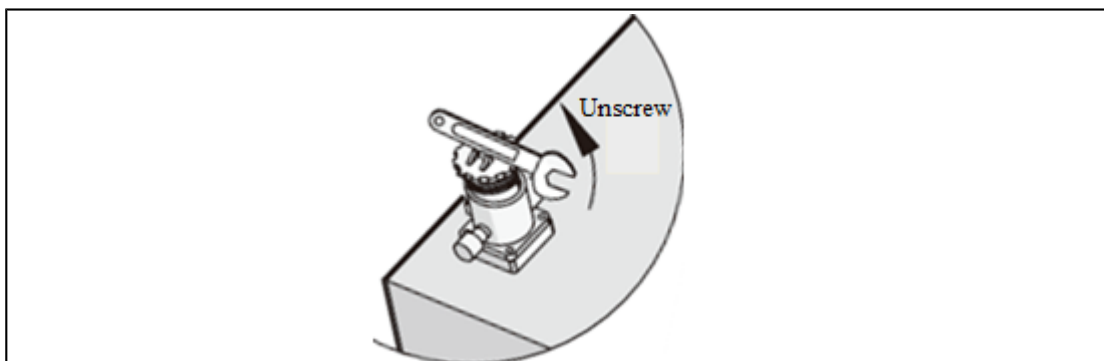

Figure 6-9 Unscrew the hydraulic filter end cap
5. When unscrew or screw the end cap of oil filter, only insert a wrench into the slot in the middle of the oil filter end cover and pull, as shown in Figure 6-9.